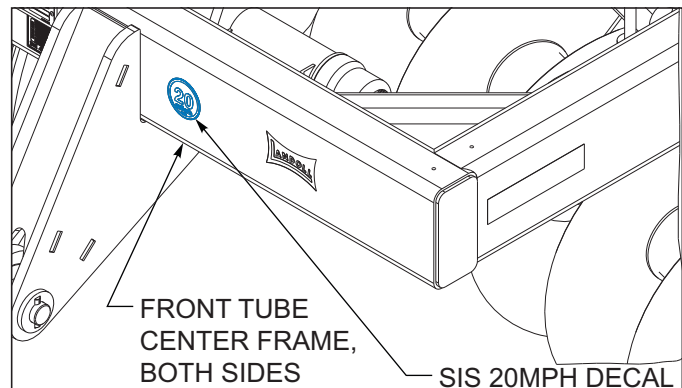
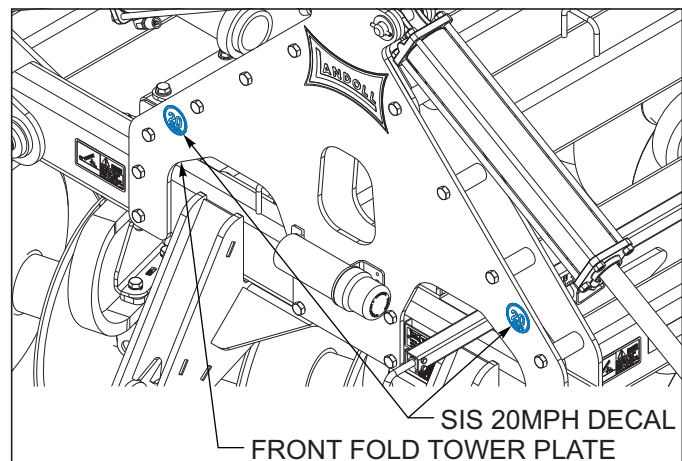
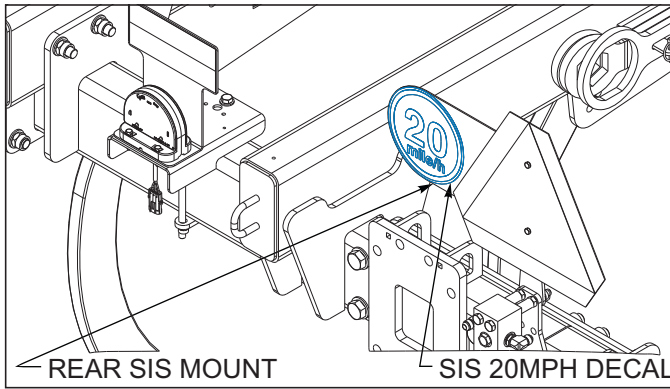
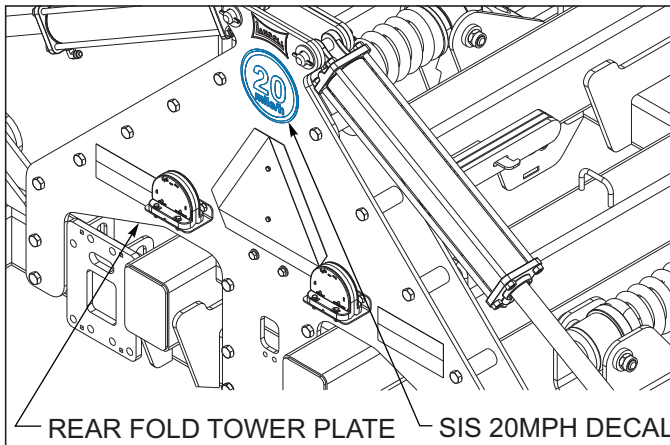

Figure 4-9: SIS 20MPH Decal Front 2411-06
Figure 4-10: SIS 20MPH Decal Front 2411AFG-07-09
Figure 4-11: SIS 20MPH Decal Rear 2411-06
Figure 4-12: SIS 20MPH Decal Rear 2411AFG-07-09
3. Unless noted on the implement, maximum transport speed is 20 mph for the implement. There are 2, SIS 20MPH decals located on the front of machine, Model 2411-06 *See Figure 4-9*, Models 2411AFG-07-09 *See Figure 4-10* and 1, on the rear of machine, Model 2411-06 *See Figure 4-11*, Models 2411AFG-07-09 *See Figure 4-12*. Slow down when driving on rough roads. Reduce speed when turning, or on curves and slopes to avoid tipping.